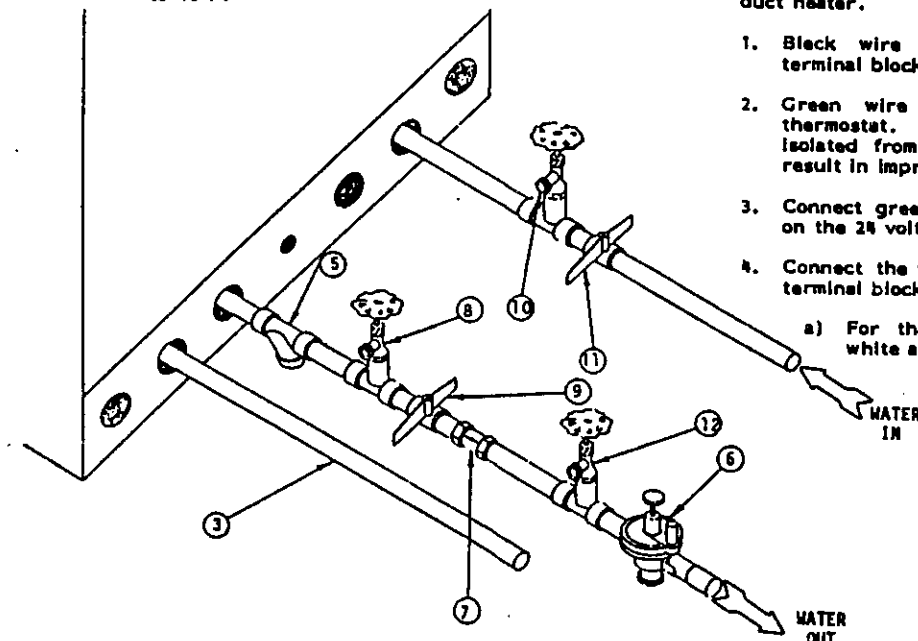

FIGURE 4
Refer to Piping, Figure 4. Slow closing Solenoid VALVE (6) with a 24V coil provides on/off control of the water flow to the unit. Refer to the wiring diagram for correct hookup of the valve solenoid coil.
- a) Connect a water flow meter to the drain cock (12, Fig. 4) between the constant flow valve and the solenoid valve. Run a hose from the flow meter to a drain or sink. Open the drain cock.